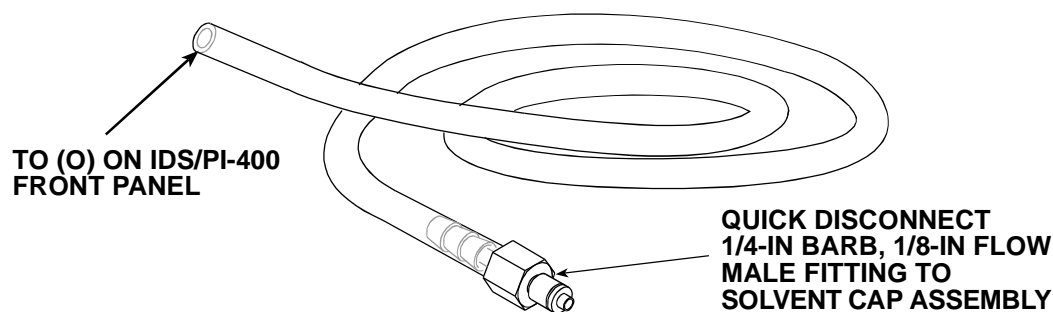

Figure 12 Solv Pump Supply Tubing Assembly (9600-780)
- 9600-780 solvent pump supply tubing assembly (*Fig. 12*)